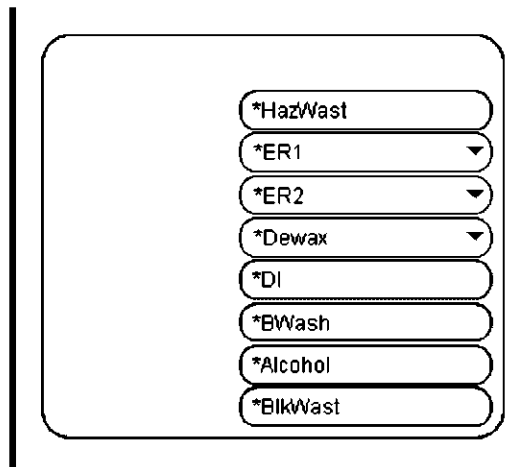

Figure 55: Detail of Bond - Max properties dialog showing containers 2, 3 and 4 as configurable
2. Click the ▼ symbol in the field associated with the container you wish to change (see Figure 55).